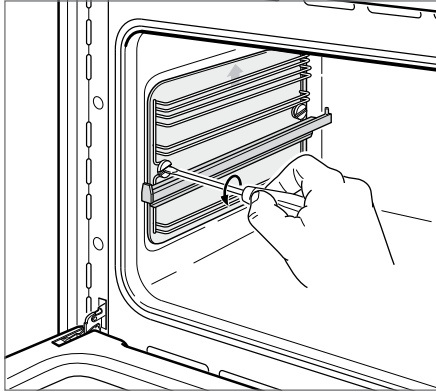

Fig.54 Removing the side racks and catalytic panels
The catalytic panels are covered with a special microporous enamel which absorbs and does away with oil and fat splashes during normal cooking over 200 °C. If, after cooking very fatty foods, the panels remain dirty, heat the oven on maximum for an hour to an hour and a half, and they will self-clean. The side panels are reversible. Make sure that you replace them with the arrow up, and on the correct side. To remove the side catalytic panels, you first need to unscrew the side racks. See Fig. 54.
- 1 Remove the side racks by unscrewing the fixing screws (Fig. 54).